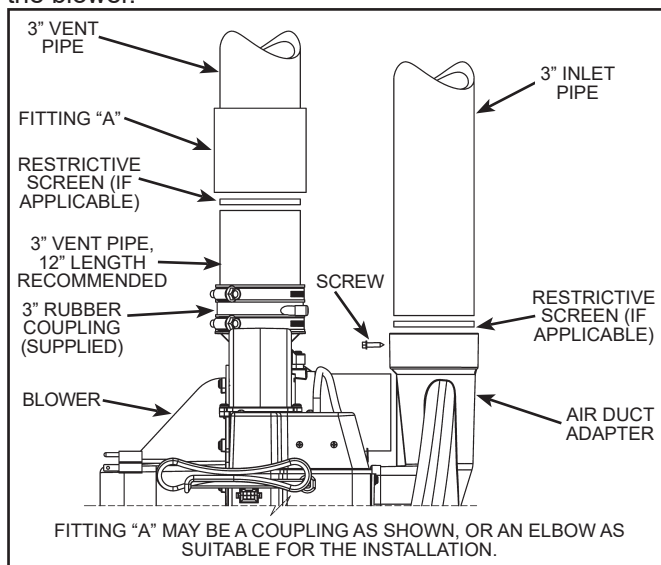

Figure 46.
1. The vent piping connects into the rubber coupling located on the top of the blower assembly. This coupling includes gear clamps to connect the venting to the blower. See Figure 46.
Figure 46 shows heaters having 3" direct connection to the blower.